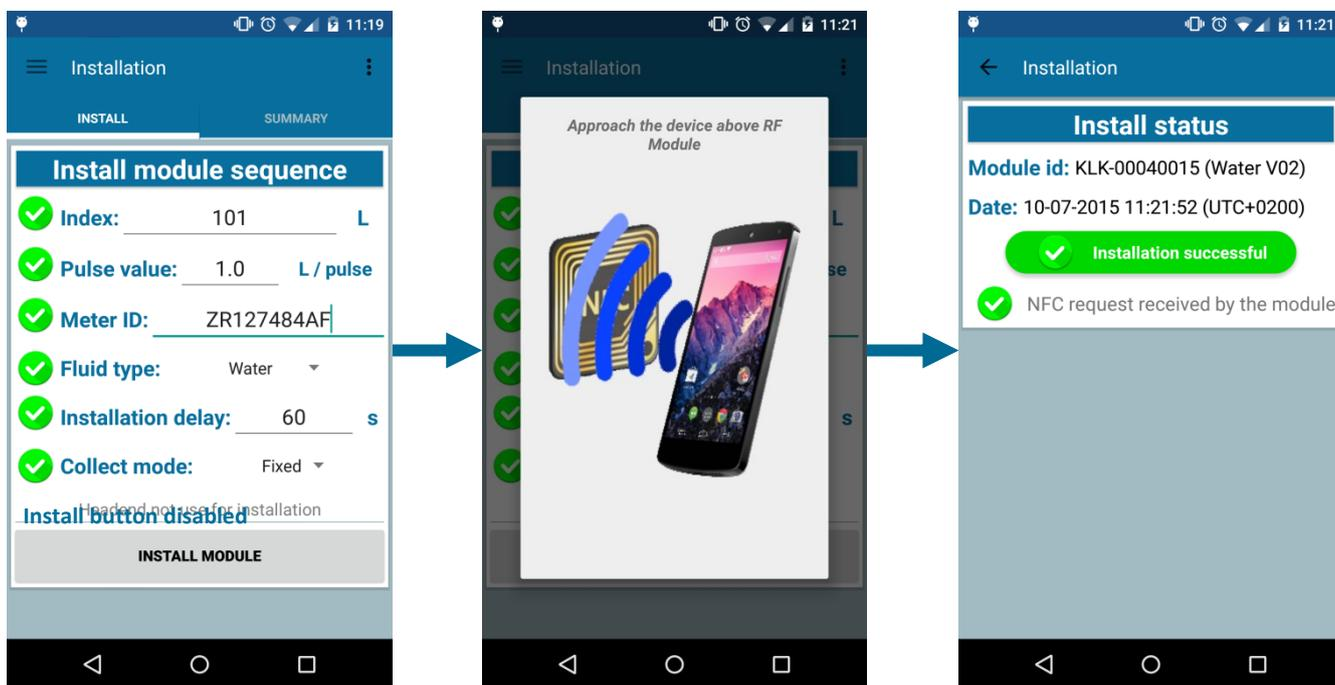

Figure 18: Installation with no headend operation
- The Wirgrid RF module 169MHz receives the NFC request and the installation is completed (see Figure 18).